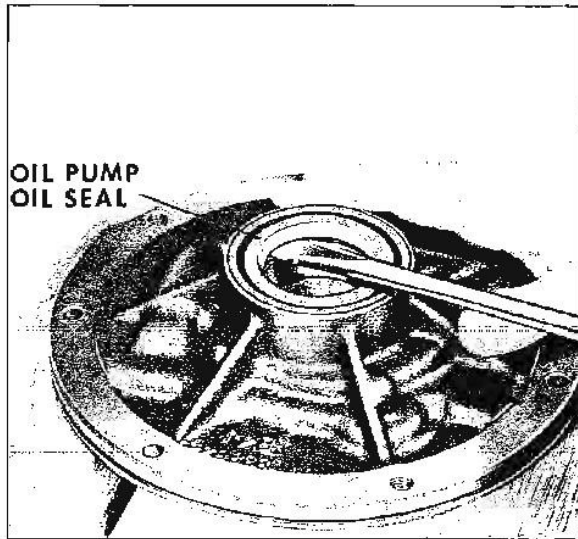

Fig. 7B-103 Removing Oil Pump Seal
5. With dial indicator set, check for clearance (Fig. 7B-104). Correct end clearance is .0005" to .0015".